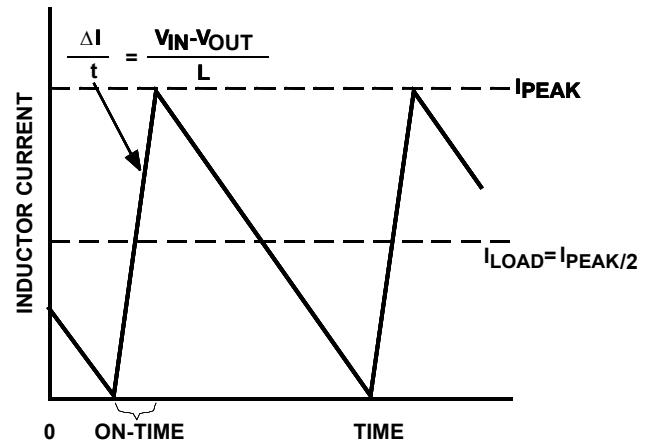

FIGURE 22. ULTRASONIC CURRENT WAVEFORMS
where K is the on-time scale factor (see “On-Time One-Shot (FS)” on page 12). The load-current level at which PFM/PWM crossover occurs, $I_{LOAD(SKIP)}$, is equal to half the peak-to-peak ripple current, which is a function of the inductor value (Figure 22). For example, in the ISL8112 typical application circuit with $V_{OUT1} = 5V$, $V_{IN} = 12V$, $L = 7.6\mu H$, and $K = 5\mu s$, switch over to pulse-skipping operation occurs at $I_{LOAD} = 0.96A$ or about on-fifth full load. The crossover point occurs at an even lower value if a swinging (soft-saturation) inductor is used.